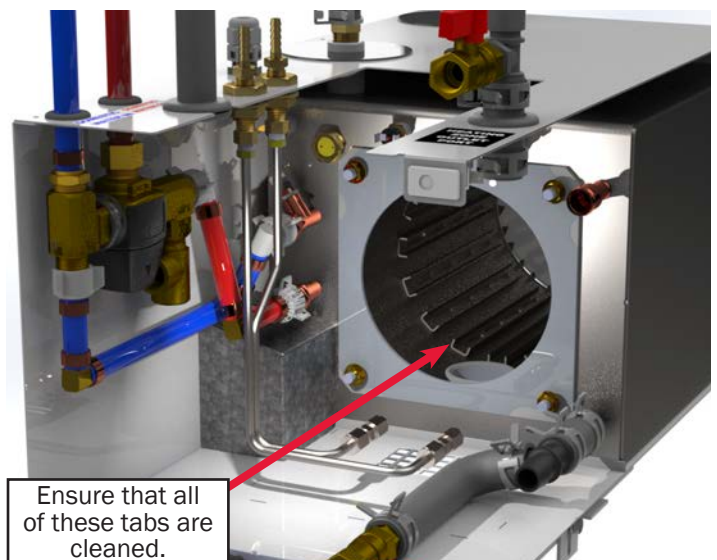

Figure 165
8. Remove the combustion chamber to gain access to the heat exchanger tabs as shown in Figure 165.
9. Using a wire brush, scrub the heat exchanger inside the Aqua-Hot as shown in Figure 165.